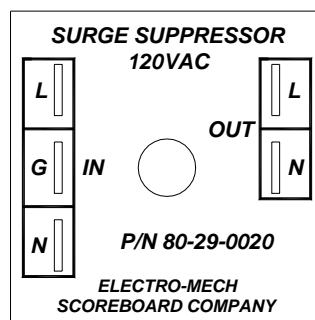

Figure 14 Surge Suppressor
6. Plug the ¼" quick disconnects on the ¼" tabs on the top of the module. The black wires should be connected to the ¼" tabs on the module labeled L. The white wires should be connected to the ¼" tabs on the module labeled N. The green wire should be connected to the ¼" tab on the module labeled G. Figure 14 shows the top view of the Surge Suppressor.